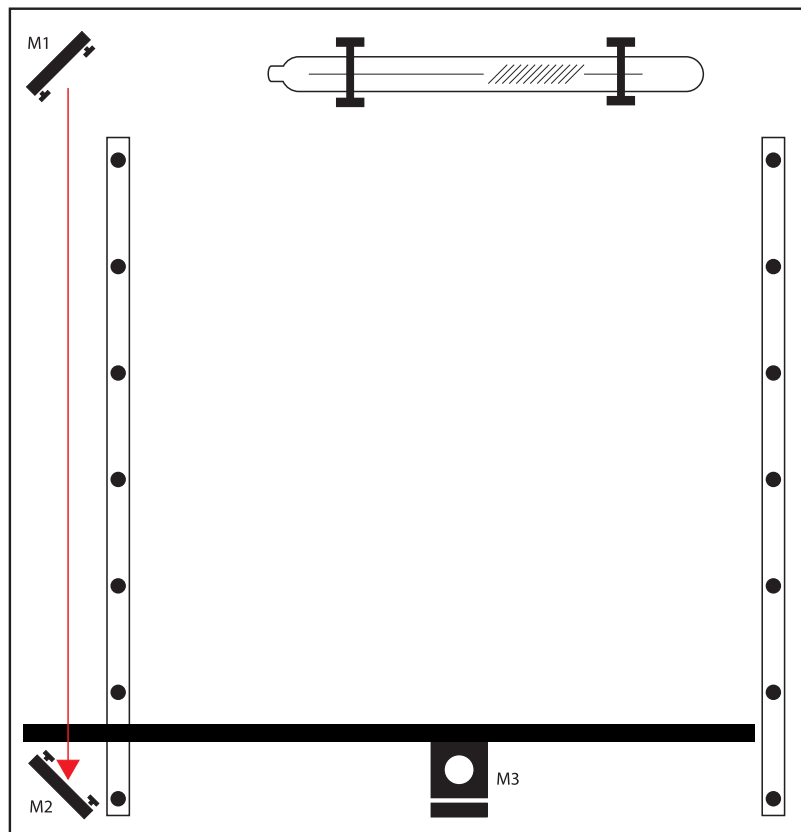

Figure 4.8
- 3. Position X-Gantry “Far”:** Jog or manually position the x-gantry to the lowest position (as shown in Figure 4.8).
**8. Re-Position X-Gantry back to “Far”:** Jog or manually position the x-gantry to the far position where you did the first test fire. (as shown in Figure 4.8).